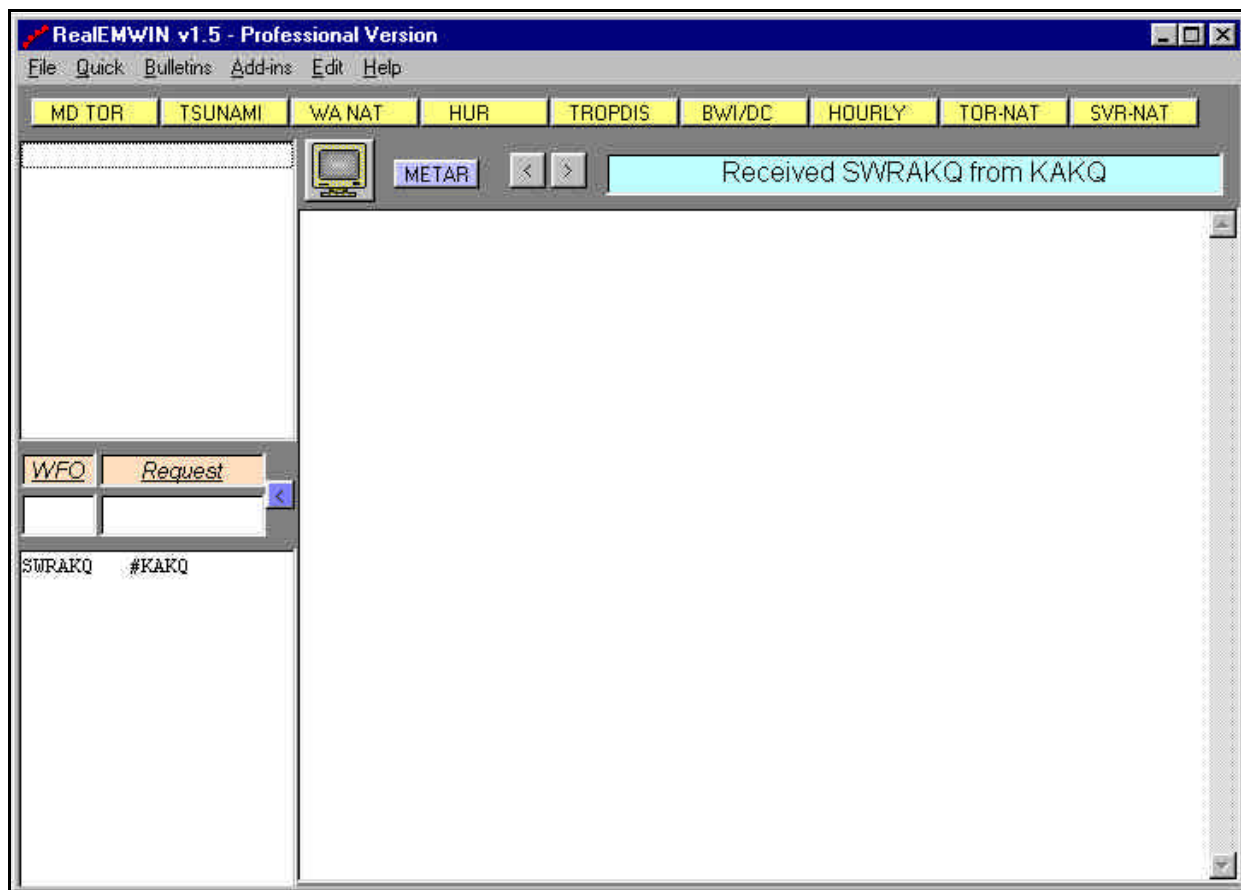

Figure 8 RealEMWIN Operational Window With Status Message
- e. Click on **SAVE** to close out the configuration window. The RealEMWIN Operational window redisplay with a light blue area posting status messages (see **Figure 8**). If all is OK, product headers post in this same status area. If this does not occur, go to the troubleshooting section of this TIP.